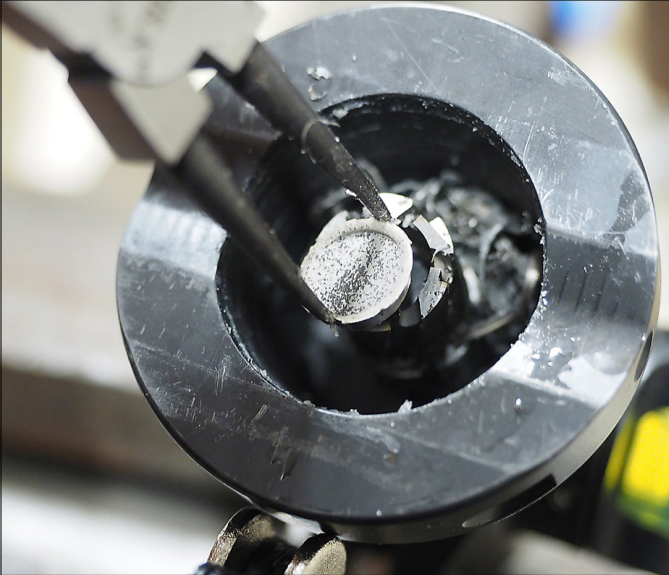

Fig 9.2 IMPORTANT! REMOVE the slug and shavings with pliers.
- 9.2 Inspect inside the cutter assembly for presence of a slug. If present, REMOVE the slug from the cutter with pliers (Fig 9.2).